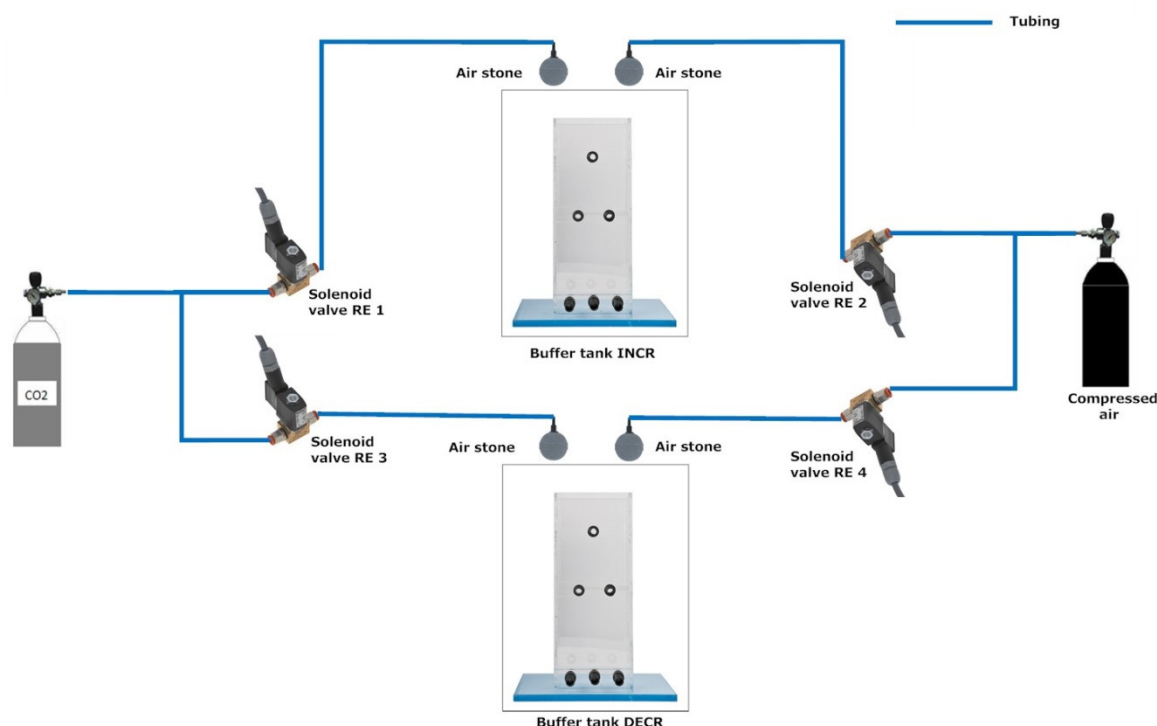

Figure 3: How to connect the buffer tanks with the CO₂ and O₂ (or compressed air) gas bottles (not supplied) for running a ShuttleBox pH/pCO₂ experiment.
Connect the CO₂ and compressed air/O₂ gas bottles (not supplied) with the solenoid valves (RE) and air stones using gas tight tubing as shown in Figure 3. Place the air stones in the bottom of the buffer tanks.